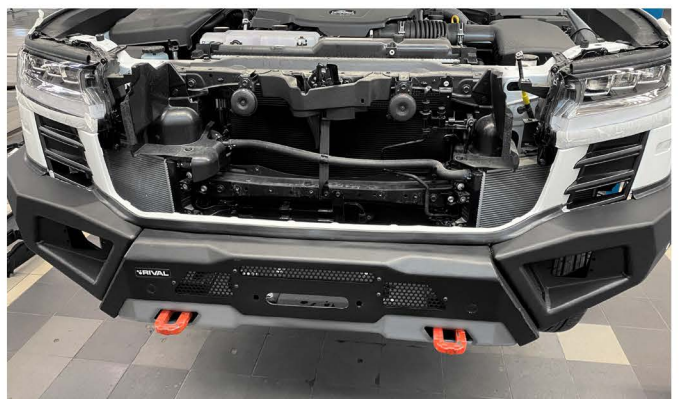

Fig.46
46. Install OE bumper on the vehicle, connect OE wiring on OE and Rival bumper and fix it using cableties (item U) (fig. 46).